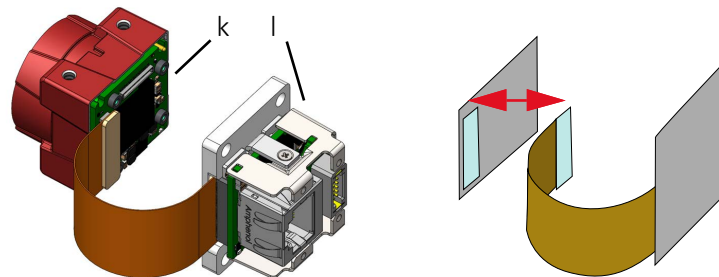

Figure 69: Aligning the connectors of the interface unit and the sensor unit
- Ensure the FPC connectors of the interface and sensor units are oriented to each other as shown in Figure 69. **Do not rotate by 180°.**
2. Align the connectors of the interface unit (l) and the sensor unit (k) to each other as shown in Figure 69.